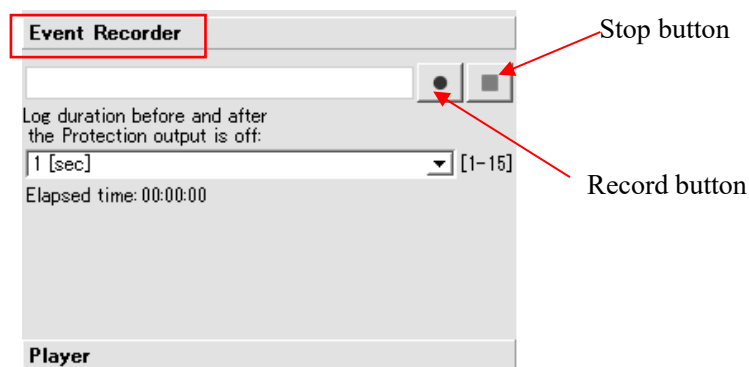

Figure 7-48 Event recording window
- Click "Event Recorder" to record the data just before and after protection detection state is triggered to OFF state (Figure 7-48).